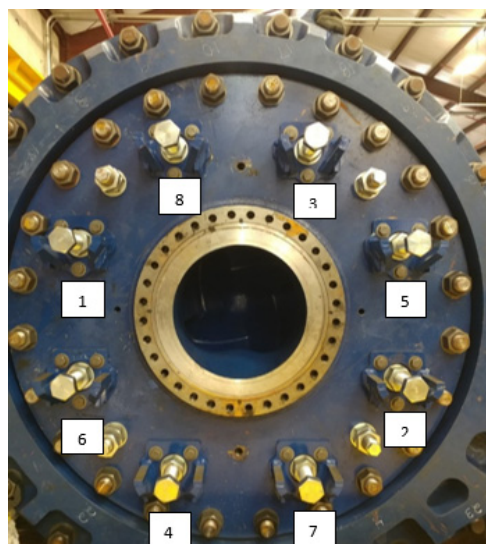

Figure 10-29: Pusher-Bolt Adjustment Torque Pattern
- Perform adjustments at a constant slurry specific gravity (SG). If fluctuations cannot be controlled to within +/-5%, make adjustments on clear water for reliable indication of rubbing during adjustment.
- Adjust the pusher bolts in multiple passes using a crosswise torque pattern (Figure 10-29). We recommend adjusting in small increments; see below for more detailed guidance on selecting an adjustment increment. This will help minimize stress per bolt and the torque requirement and will improve the ability to detect when the liner contacts the impeller.